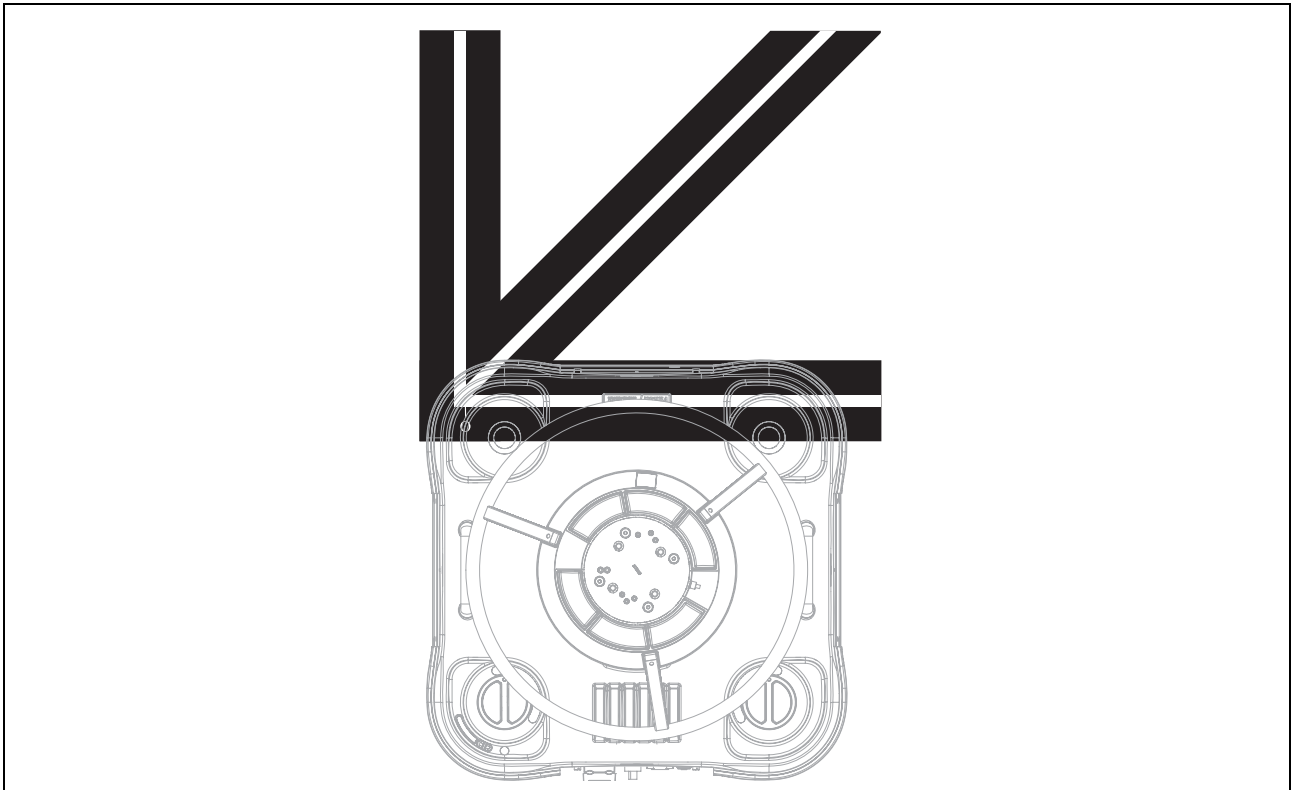
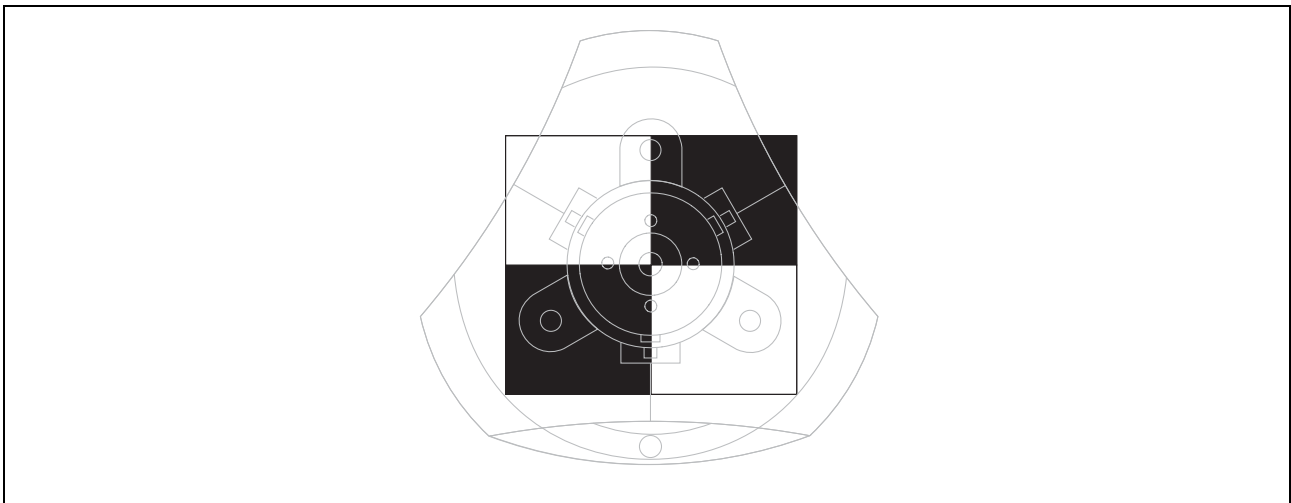

Fig 5 Fusion pedestal targeting
Fig 6 SP-2000 pedestal targeting
All robotic pedestal movements reference an absolute datum target; either permanently adhered to the studio floor (Fig 5) (Fig 6) or mounted at the edge of the studio as a vertical bar-code (RP2A pedestals). Studio configurations without pedestals do not need to reference a datum target position. In this instance, please refer directly to **Run the VRC program** on page 22.
Connected camera units must be 'targeted', that is reference the absolute studio datum (Fig 5) (Fig 6), before they can be used to either store shots in a show or move to shots already stored in a show. RP2A pedestals will automatically reference their target, whereas both Fusion FP-145 and SP-2000 pedestals must be targeted by the operator.
2. Use the pedestal joystick (16) to position the Fusion FP-145 camera unit next to a (Fusion) studio datum target as shown in (Fig 5), or use the pedestal joystick (16) to position the SP-2000 camera unit central to a (SP-2000) studio datum target as shown in (Fig 6).